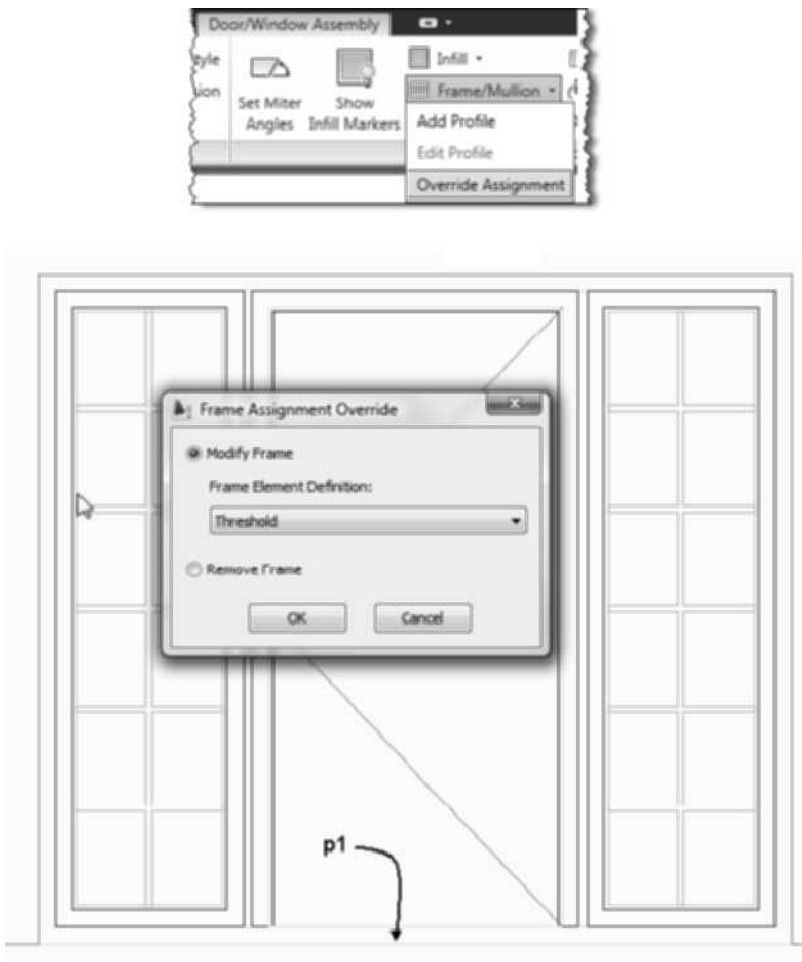

FIGURE 6.32 Overriding the frame assignment
37. Edit the Frame Assignment Override dialog box: select the **Modify Frame** radio button and select **Threshold** from the drop-down list as shown in Figure 6.32. Click **OK** to dismiss the Frame Assignment Override dialog box.